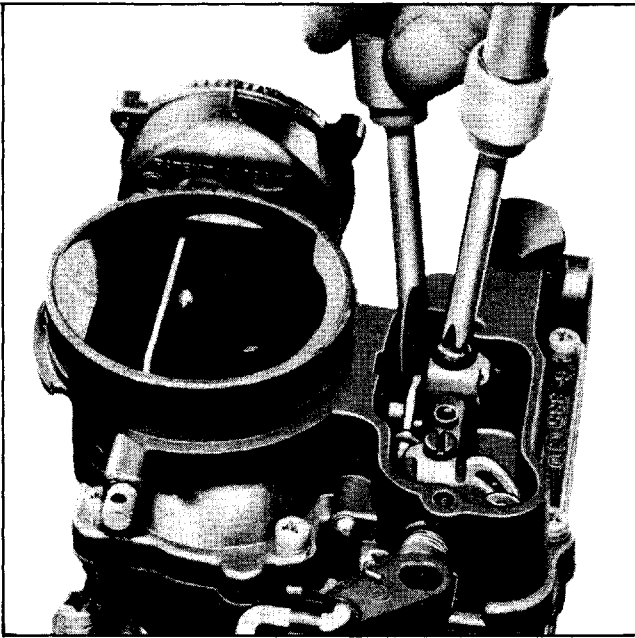

Fig. 6B-35 Metering Rod Adjustment—Carter
3. While holding throttle valves closed with slight tension there should be $.026''$ (gauge J-5908) clearance between the center of throttle valves and bore, opposite idle mixture adjusting screws (Fig. 6B-36).